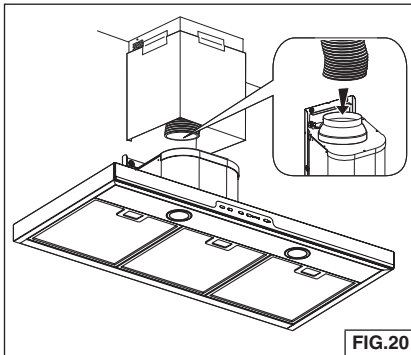

FIG.20
8. Stretch expandable duct, attach it to the 6"-to-8" adapter and tape duct joints. Fig. 20.